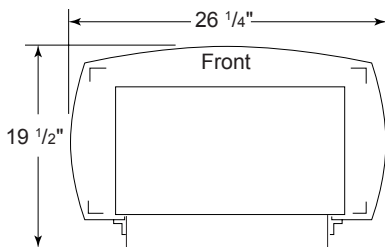

Figure 5 - Stove With Burner System Bottom Dimensions
directly on the floor. If your stove is to be installed directly on carpeting, vinyl tile, or any combustible material other than wood, it must be installed on a metal or wood panel extending the full width and depth of the stove. See Figure 5, page 6.
- You must maintain minimum wall and ceiling clearances shown in Figures 5 and 6, page 5.